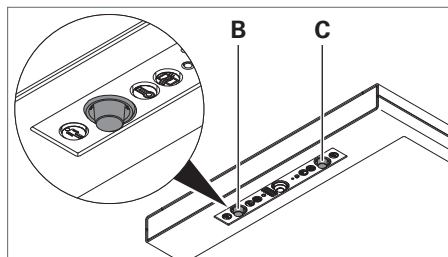

Fig. 16: PIR sensors: Occupation workplace 1 and 2, version RX.
- Swivel the PIR sensors **B**, **C** in the required direction, see Fig. 16.